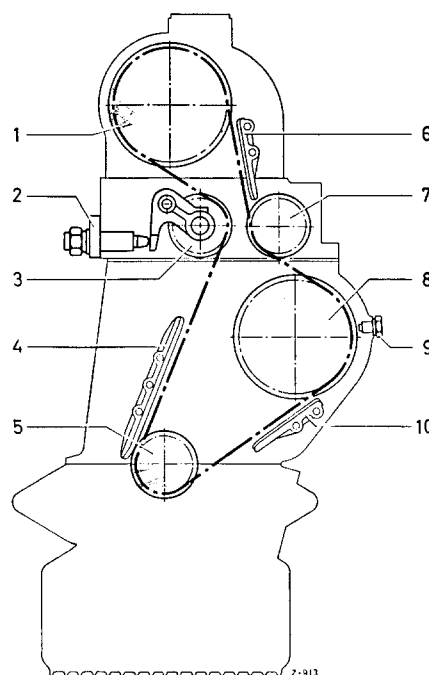

Fig. 05-5/9
1. Unscrew cap nut (1) (Fig. 05-5/8).
2. Remove pressure spring (3), pin (5) ball retainer (6), ball (8) and pressure pin (9) from housing (4).
3. Clean all parts thoroughly and check for wear, replace if required. The radial play of the pressure pin (9) in housing (4) is 0.05–0.06 mm.